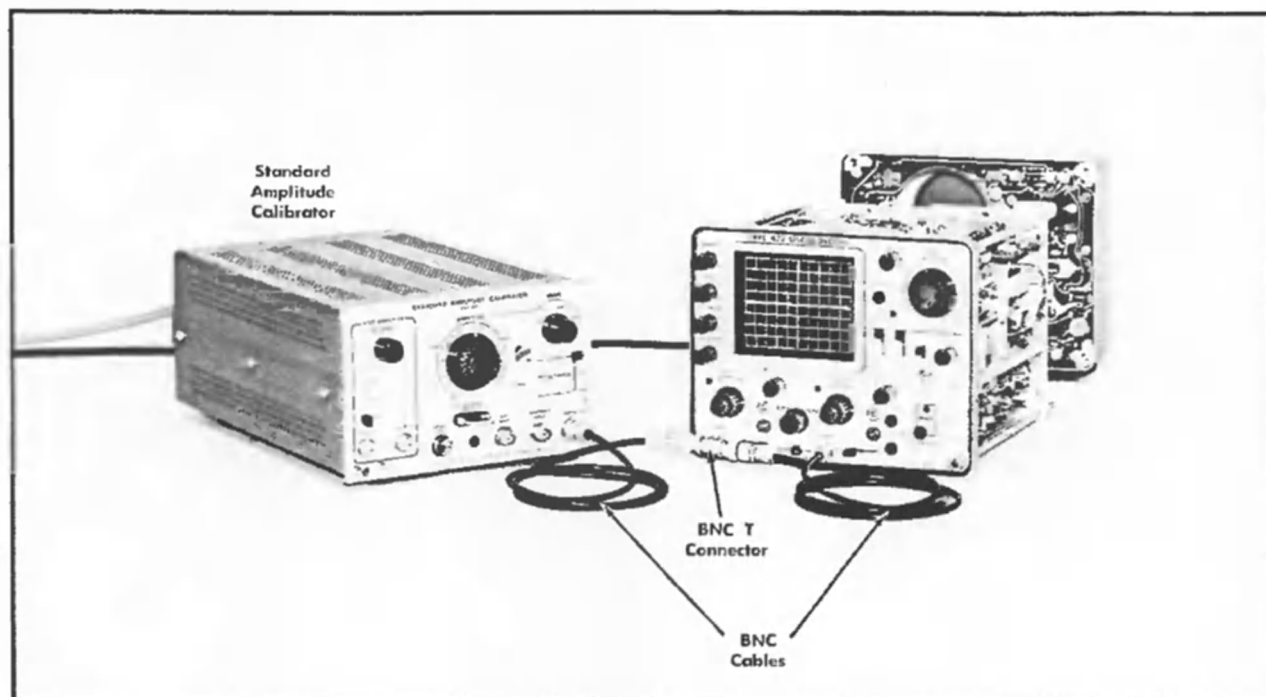

Fig. 6-17. Initial test equipment setup for steps 12–19.
- Test equipment setup is shown in Fig. 6-17.